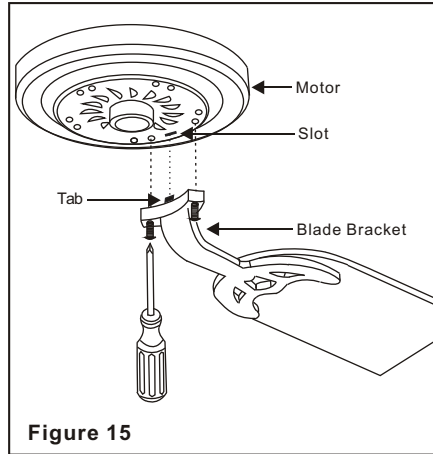

Figure 15
Step 3 Fasten the blade assemblies to the motor by insert the tab from the blade brackets to the slot in the bottom motor housing, then tighten the two screws and washers already installed in the blade brackets (Figure 15).